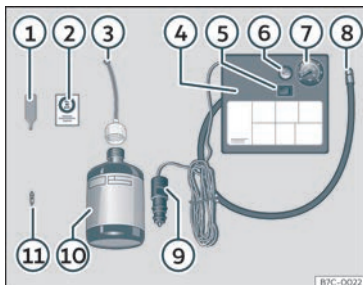

Fig. 38 Standard representation: anti-puncture kit contents.
The anti-puncture kit is located underneath the floor covering in the luggage compartment. It includes the following components >>> Fig. 38:
- Unscrew the tyre valve cap and insert. Use the >>> Fig. 38 ① tool to remove the insert. Place it on a clean surface.
- Shake the tyre sealant bottle vigorously >>> Fig. 38 ⑩.
- Screw the inflator tube >>> Fig. 38 ③ into the sealant bottle. The bottle's seal will break automatically.
- Remove the lid from the filling tube >>> Fig. 38 ③ and screw the open end of the tube into the tyre valve.
- Place the insert back into the tyre valve using the tool >>> Fig. 38 ①.
- Screw the compressor tyre inflator tube >>> Fig. 38 ⑧ into the tyre valve.
- Check that the air bleed screw is closed >>> Fig. 38 ⑥.
- Insert the connector >>> Fig. 38 ⑨ into the vehicle's 12-volt socket >>> page 149.
- Turn the air compressor on with the ON/OFF switch >>> Fig. 38 ⑤.
- Attach the sticker»» **Fig. 38** ② to the instrument cluster, within the driver's visual field.
Screw the inflator tube»» **Fig. 38** ⑤ again and check the pressure on the gauge ⑥.